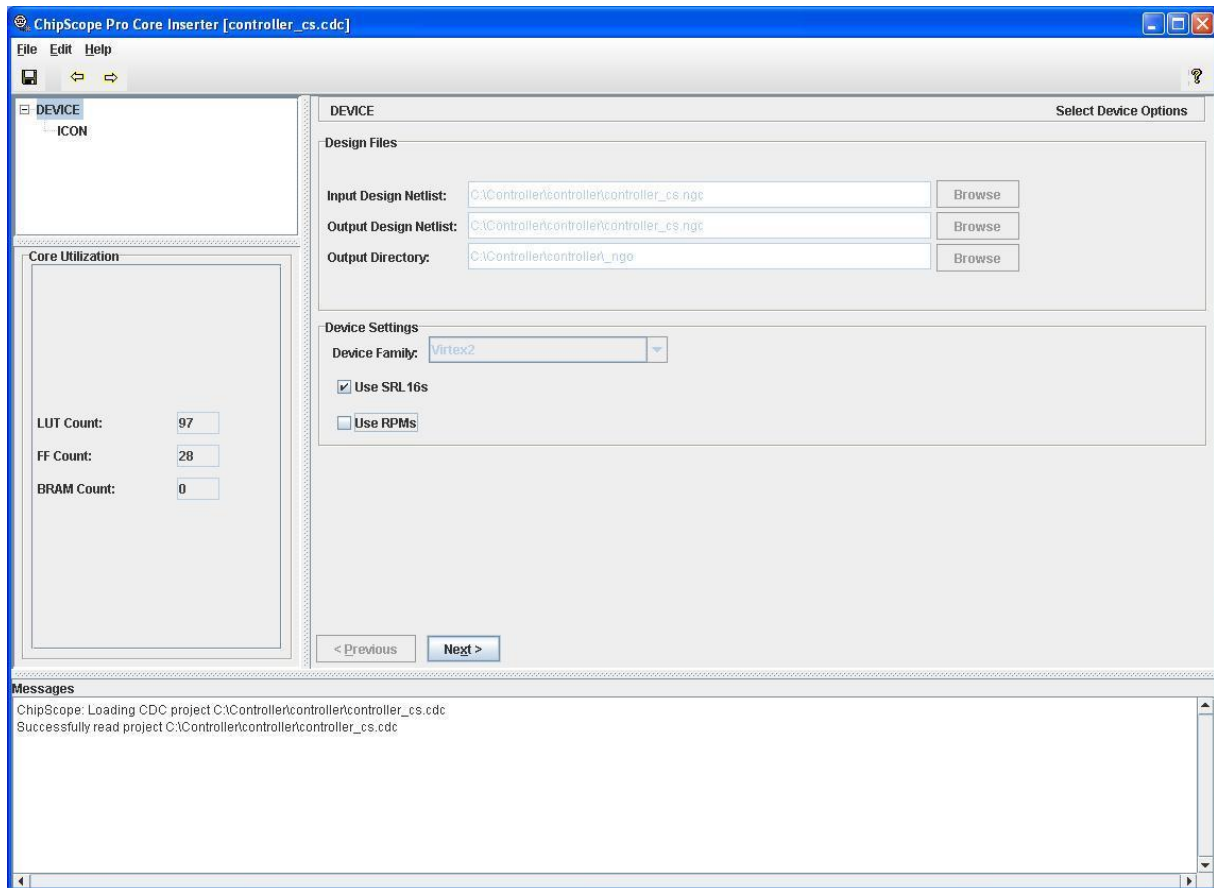

Fig 3.8: Selecting Device Properties
1. These settings include **Device Family**, **SRL16 usage** and **RPM usage** which can be viewed from Fig 3.8. The target FPGA device family is displayed in the **Device family** field if only the Chipscope Core Inserter was launched from Project Navigator. The optimization of cores depends upon different families.